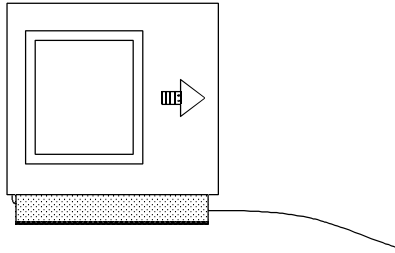
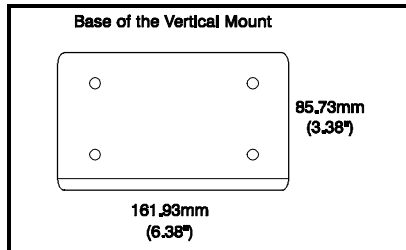

Figure 2
Figure 3
With the Metrologic stand (Part #45472), there is a choice of four directions the scanner can be positioned for greater flexibility. Figure 2 illustrates one direction that can be chosen. The stand requires a mounting space of 91.44mmL x 165.1mmW (3.6" x 6.5") to stabilize the stand. Since the arrow of the scanner in Figure 3 is pointing to the right, items must be presented to the scanner from left to right.
1. Drill four holes into the work surface that correspond with the holes in the 161.93mm x 85.73mm (6.38" x 3.38") base of the stand. (See Figure 3)